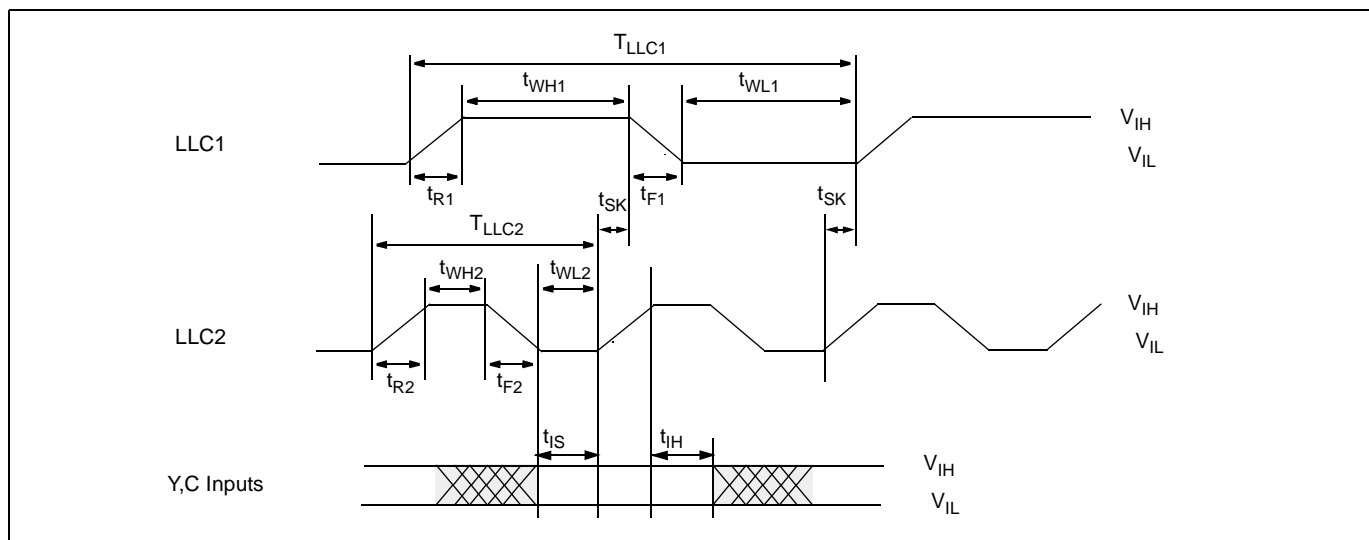

Fig. 4–21: Line-locked clock input pins and luma/chroma bus input timing
4.6.4.3. Luma, Chroma Inputs (see Fig. 4–21)